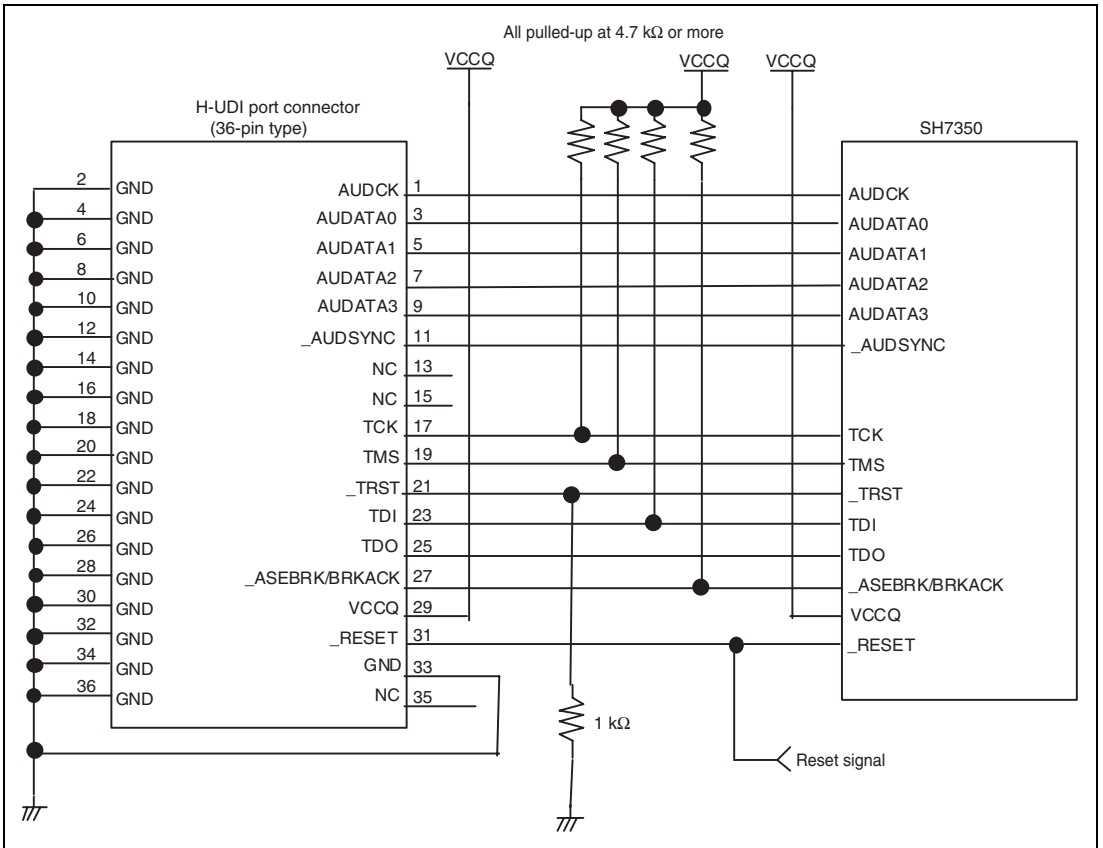

Figure 1.2 Recommended Circuit for Connection between the H-UDI Port Connector and Device when the Emulator is in Use (36-Pin Type)
Figure 1.2 shows a recommended circuit for connection between the H-UDI and AUD port connectors (36 pins) and the device when the emulator is in use.
5. The resistance value shown in figure 1.2 is for reference.